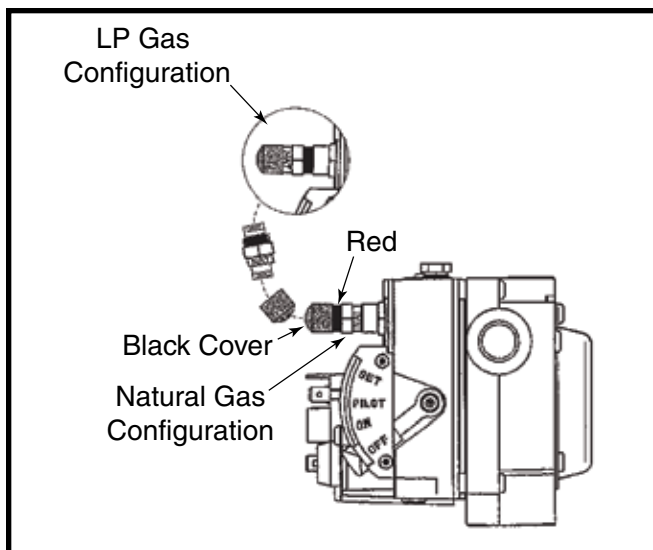

Figure 29. Robertshaw Gas Valve
- a. Remove the black cover and unscrew the converter located on top of the gas valve. See Figure 29 \(page 21\).